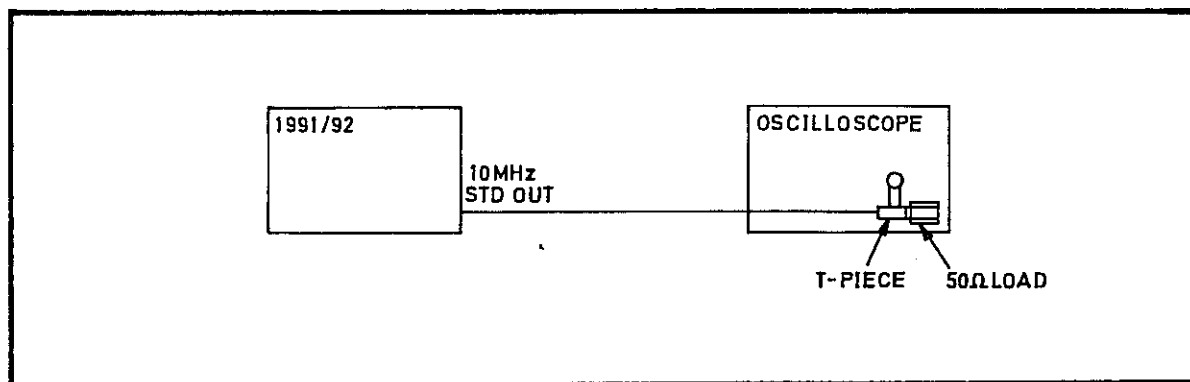

Fig 7.20 Connections for 10 MHz Standard Output Level PVP
- (1) Connect the test equipment as shown in Fig 7.20.
- (2) Verify that the peak-to-peak amplitude of the displayed waveform is 1.0 V  $\pm$ 0.4 V. Verify that the mark/space ratio is between 30:70 and 70:30.
- (3) Disconnect the test equipment.